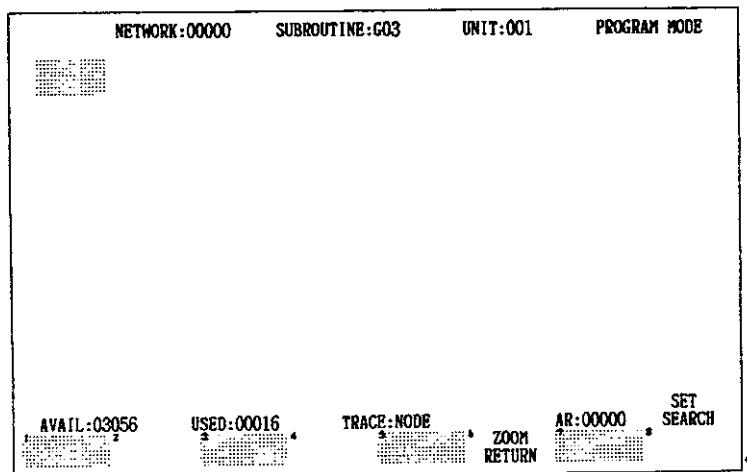

Fig. 3.155
3. If a non-programmed subroutine is displayed, the network in the initial state appears, in Fig. 3.155.